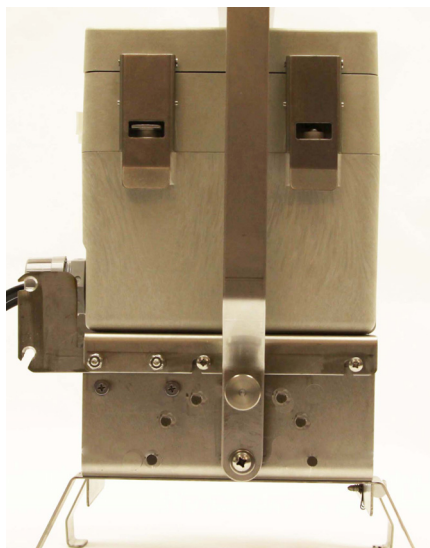

Figure 4-5 Signature in upward facing position
6. Tighten all 8 screws (4 on each side) (Figure 4-5).